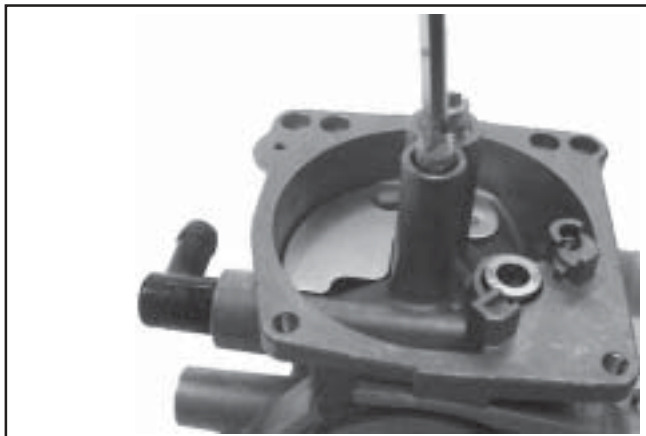

Figure 5-21. Installing Slow Jet.
9. Install the slow jet and new plug into end of slow jet tube. See Figures 5-21 and 5-22.